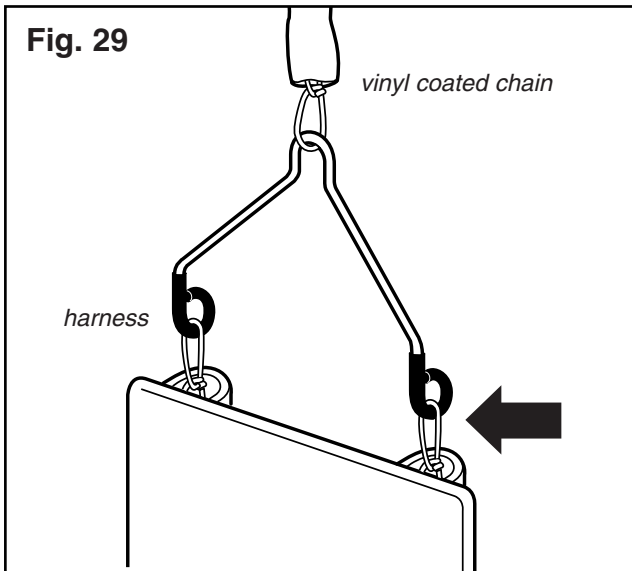

Fig. 29
3. Place one covered chain onto each harness. (Fig. 29). Crimp harness end closed. **CAUTION:** It is important that you crimp harness ends completely closed before using (see Fig. 29). Place end of harness with hooks on a hard surface and force hooks closed with a hammer or squeeze closed with a pliers until parts are touching. **WARNING:** Open hooks can cause deep cuts.